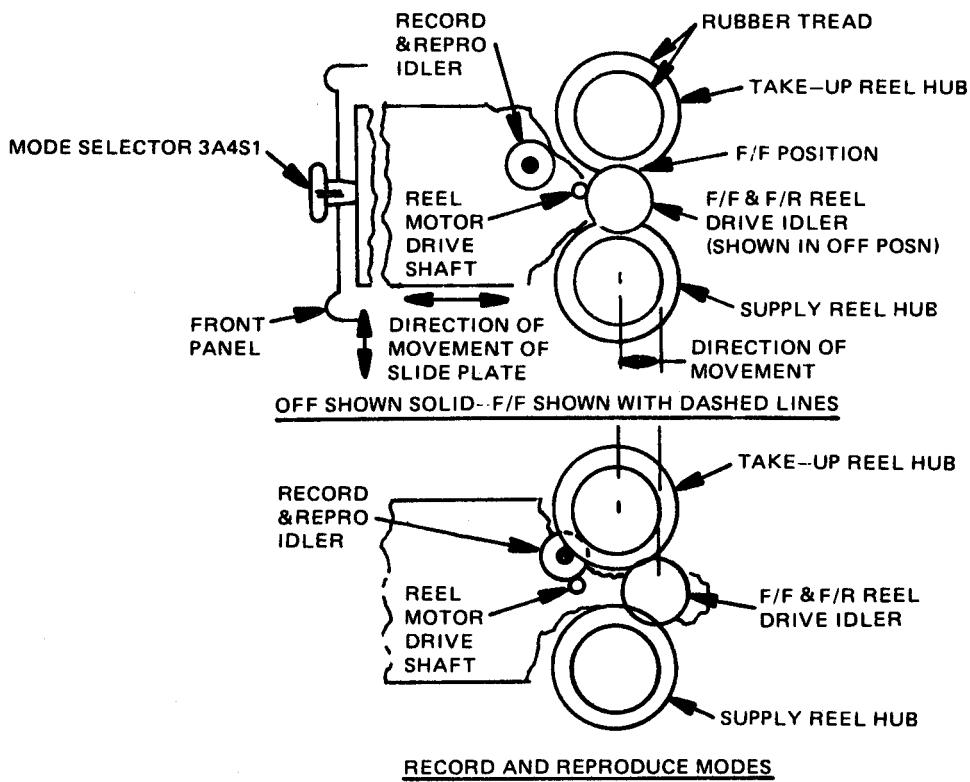

Figure 3-3. Reel Drive, Functional Schematic
(6) Reel motor drive system. Figure 3-3 is a functional schematic of the electromechanical system used to drive the tape reels (within the tape cassette). The function mode selector 3A4S1 on the front panel is physically connected to a slide plate on which idler wheels A and B are mounted. By proper positioning of the mode selector knob, the main slide plate is moved in or out and a cam plate is moved to one side or the other to engage one or the other of the idler wheels with the reel motor drive shaft and the rubber-covered reel drive hubs. Idler A is used to drive the reels in the fast forward and fast reverse modes. When the mode selector knob is in the F/R position, idler A is moved into contact with the motor drive shaft and one drive surface of the supply reel hub. The ratio of the diameters is such that the reels are driven at the selected fast speed (forward or reverse) . When the mode selector knob is pushed in toward the panel and turned to the REC or REPRO position, idler A is moved out of contact with the reel hubs and idler B is moved into contact with the motor drive shaft and the take-up reel hub drive surface. This provides